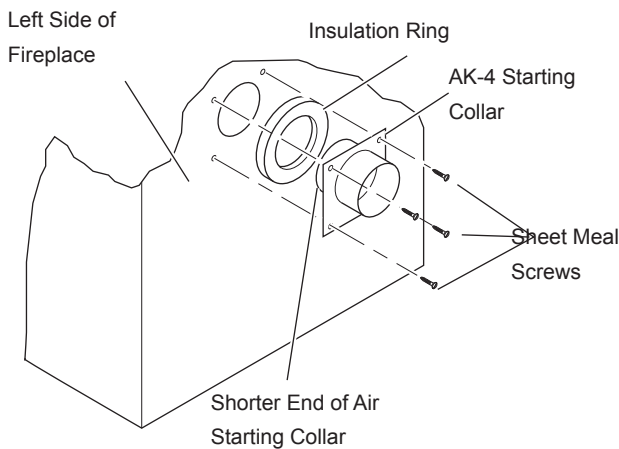

Figure 26 - Attaching Outside Air Starting Collar and Insulation Ring to Left Side of Fireplace
3. Place the starting collar (4") into the hole on the side of fireplace. Fasten it in place with the four sheet metal screws provided. *Figures 26 and 28*